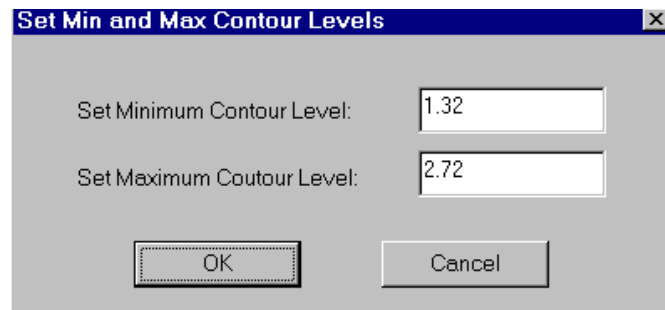

Figure 73. Set Min/Max Dialog
2. Use the Set Min/Max dialog to adjust the minimum and maximum values, Figure 73.